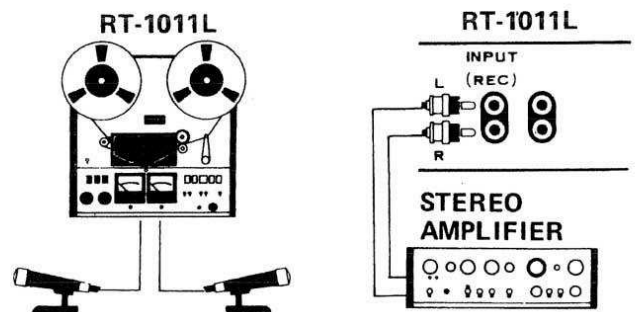

Fig. 41
1. Connect microphones to MIC jacks and signal from stereo amplifier to INPUT (REC) jacks (Fig. 41).